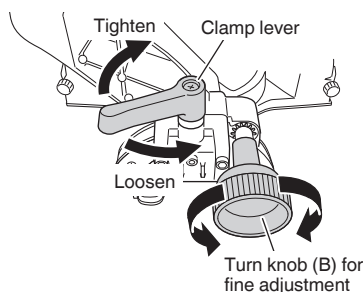

Fig. 33
- (2) Turn the knob (B) while supporting the head to make fine adjustments to the bevel angle. Turn the knob (B) clockwise to adjust the bevel angle of the head to the left, and counterclockwise to adjust it to the right. (Fig. 33)
- (3) After fine adjustment of the bevel angle is completed, fully tighten the clamp lever to fix the head. (Fig. 33)